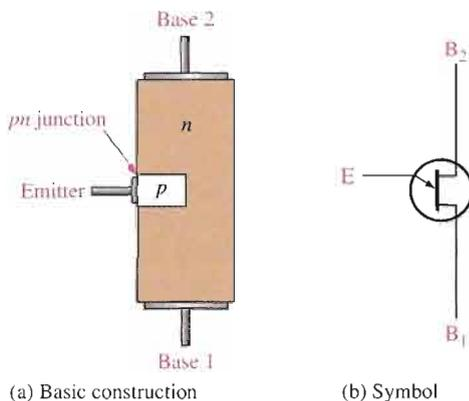

FIGURE 11-33
The **UJT** (unijunction transistor) is a three-terminal device whose basic construction is shown in Figure 11-33(a); the schematic symbol appears in Figure 11-33(b). Notice the terminals are labelled Emitter (E), Base 1 ( $B_1$ ), and Base 2 ( $B_2$ ). Do not confuse this symbol with that of a JFET; the difference is that the arrow is at an angle for the UJT. The UJT has only one *pn* junction, and therefore, the characteristics of this device are different from those of either the BJT or the FET, as you will see.